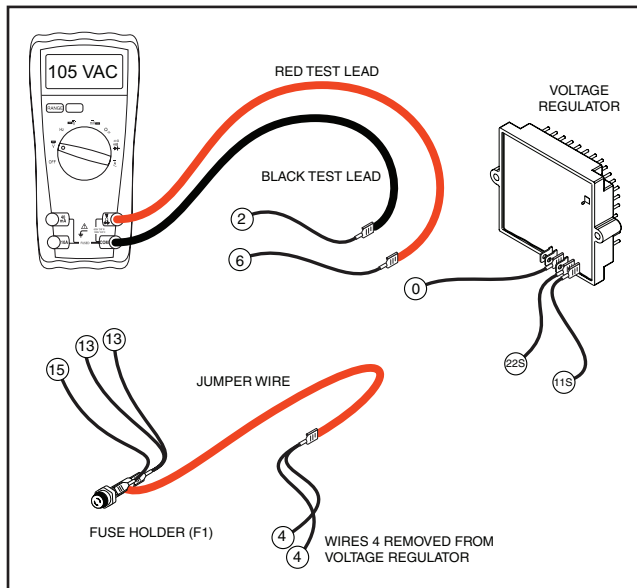

Figure 7-4. – Fixed Excitation Test, Step B
4. Disconnect Wire 2 from the Voltage Regulator (VR) and connect one meter test lead to that wire. Disconnect Wire 6 from the Voltage Regulator and connect the other meter test lead to that wire. See Figure 7-4. Start the generator and measure the AC voltage. It should be above 60 volts. Record the results and stop the generator.